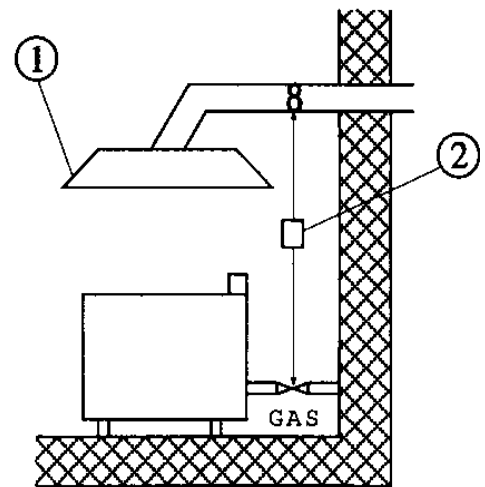

Fig.2
If there is no hood, as an alternative, an air extractor connected directly to the outside is acceptable, (Forced Discharge) Fig.2, but its capacity must not be inferior to what is established in item 4.3 of the UNI-CIG norm 8723.